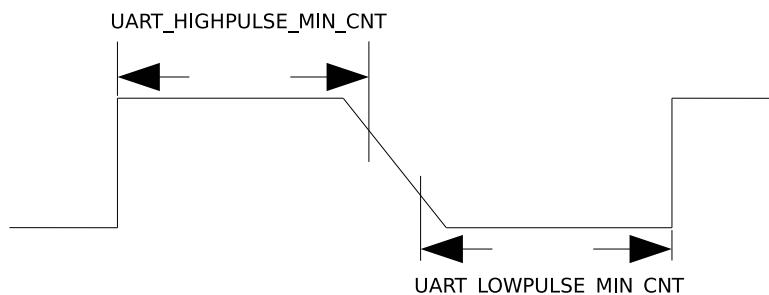

Figure 25-3. The Timing Diagram of Weak UART Signals Along Falling Edges
2. If UART signals are weak along falling edges as shown in Figure 25-3, which leads to an inaccurate average of `UART_LOWPULSE_MIN_CNT` and `UART_HIGHPULSE_MIN_CNT`, use `UART_POSEDGE_MIN_CNT` to determine the transmitter's baud rate as follows: